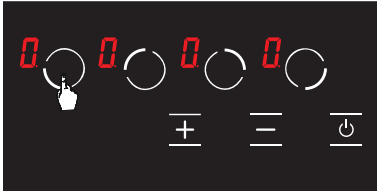

Figure 9
2. Press the relevant hob selection key once. The **0** icon is displayed when you touch for the first time. (See Fig. 9)